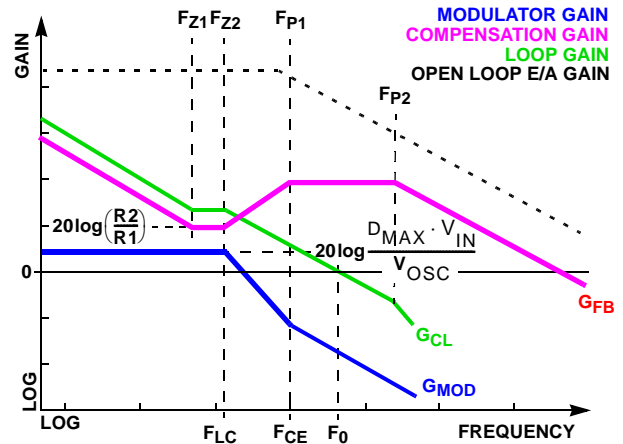

FIGURE 16. ASYMPTOTIC BODE PLOT OF CONVERTER GAIN
Figure 16 shows an asymptotic plot of the DC/DC converter's gain vs frequency. The actual Modulator Gain has a high gain peak dependent on the quality factor (Q) of the output filter, which is not shown. Using the previous guidelines should yield a compensation gain similar to the curve plotted. The open loop error amplifier gain bounds the compensation gain. Check the compensation gain at F_{P2} against the capabilities of the error amplifier. The loop gain, G_{LP} , is constructed on the log-log graph of Figure 16 by adding the modulator gain, G_{vd} (in dB), to the feedback compensation gain, G_{COMP} (in dB). This is equivalent to multiplying the modulator transfer function and the compensation transfer function and then plotting the resulting gain.